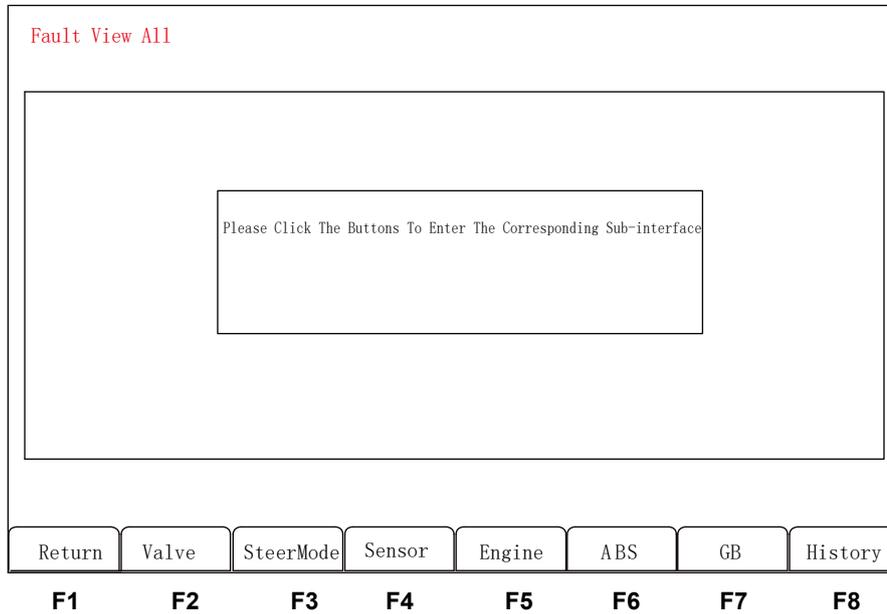

Figure 3-11 Fault view all
Press function key F2 in Figure 3-10 to switch to the following screen. See Figure 3-11.
Press function key 5 “Engine” in Figure 3-11.